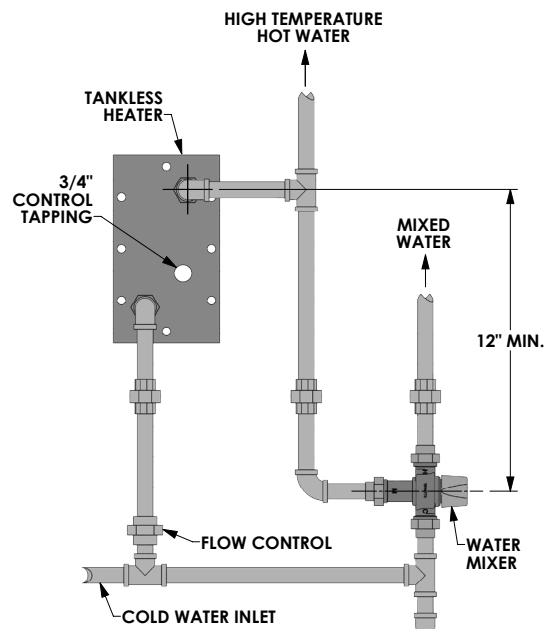

Figure 2.4: Tankless Coil Piping, Steam Boiler
1. If a tankless Heater is used (Item 13 or 17, Figure 12.1), install as pictured. On water boilers, install in the opening in the front section. On Steam boilers, install in the opening in the rear section. For suggested piping of tankless water heaters refer to Figures 2.4 and 2.5.